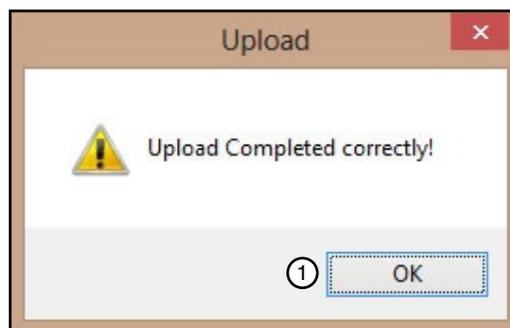

Figure 45-1 1. OK Button
- The Upload pop-up screen is updated to indicate that the file has been uploaded correctly. See Figure 45-1.